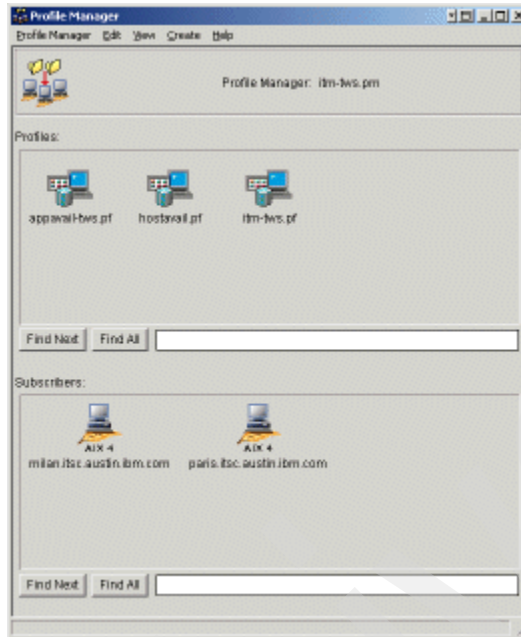

Figure 9-130 Configured itm-tws.pf profile in itm-tws.pm profile manager
11. Select **Close**. You are returned to the Profile Manager window for the itm-tws.pm profile manager, as shown in Figure 9-130 on page 528.